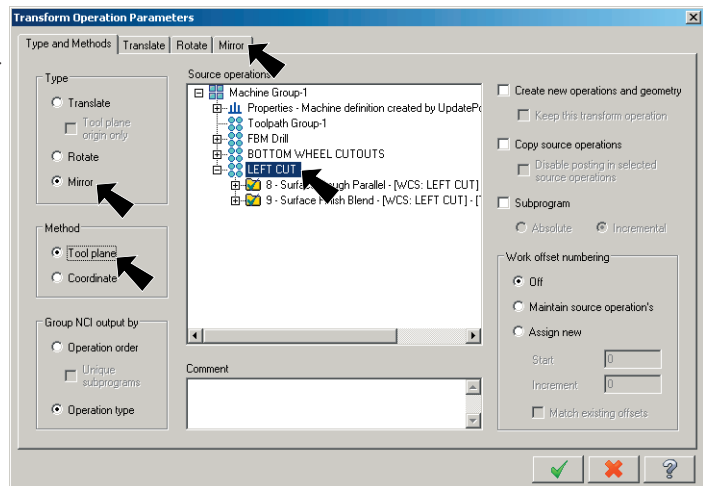

Fig. 100
Step 4. Under Type, select **Mirror**, **Fig. 100**.
Step 7. Click the **Mirror** tab at the top of the dialog box, **Fig. 100**.